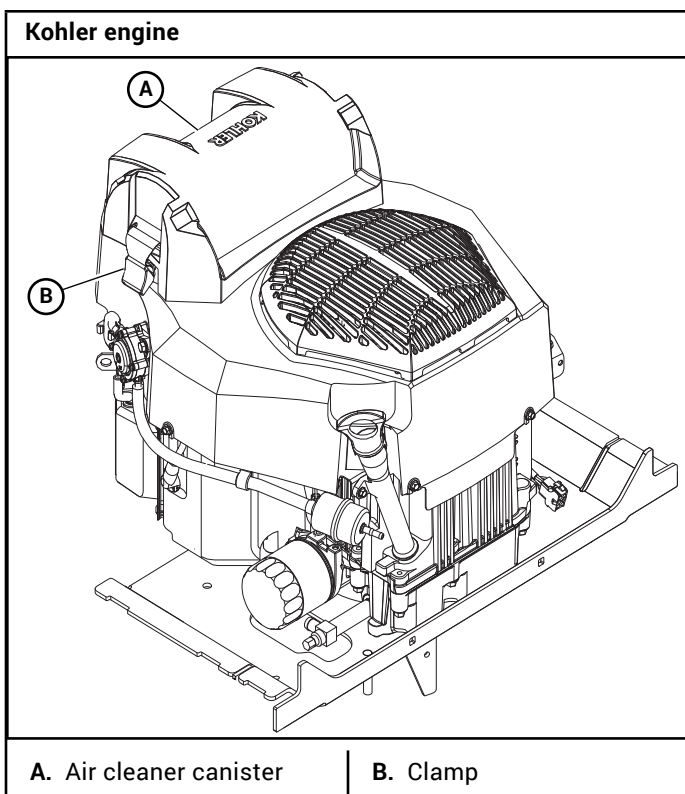

Figure 4-12
A specially designed dry filter is standard equipment on these mowers and supplies clean combustion air to the engine. Figure 4-12
3. Reinstall the top of the canister housing. Make sure it seals all the way around the lower part of the housing, then tighten the clamps. Figure 4-12